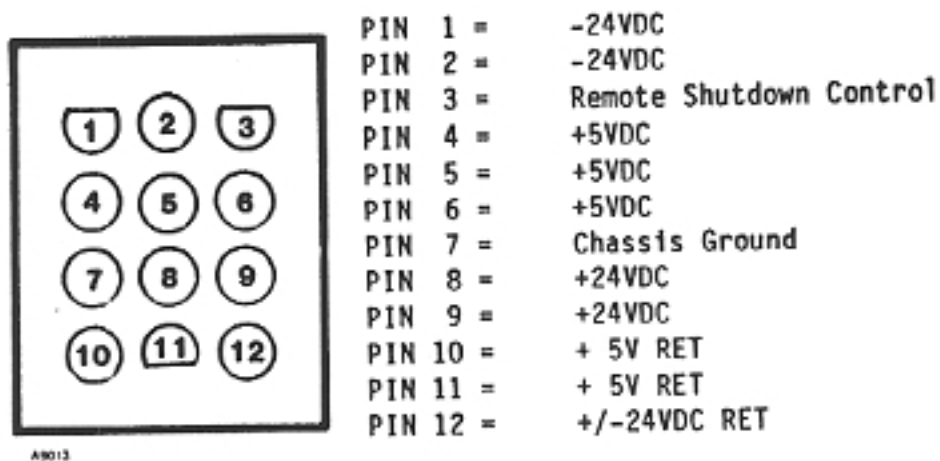

Figure 7-1 POWER SUPPLY PLUG PIN-OUT DIAGRAM
**3.02** PCB faults are indicated by LEDs. These LEDs indicate a failing PCB or a missing voltage level. Each PCB is fuse protected. Test points are provided on each board for checking voltage levels. Fuse data is provided for troubleshooting only. Do not attempt to change PCB fuses in the field. Refer to the individual PCB layouts in Section 5 of this manual. A pinout diagram of the Power Supply Output plug, with voltage readings is provided in Figure 7-1.
**NOTE:** If any of the VOLTAGES are not present after completing test 1, **DO NOT** install any additional cards. Refer to pinout diagram ( Figure 7-1 ) for testing of power supply voltages.